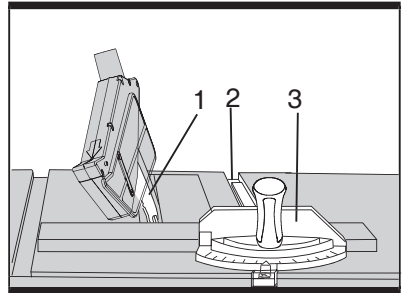

Fig 21
**Warning:** Always work to the right side of the blade during this type of cut. The mitre gauge (3) must be in the right side groove (2) because the bevel angle may cause the blade guard to interfere with the cut if used on the left side groove.
- 1) Adjust the blade (1) to the desired angle, and tighten the blade bevel lock knob.
- 3) Hold workpiece firmly against the face of the mitre gauge (3) throughout the cutting operation (See fig. 21).